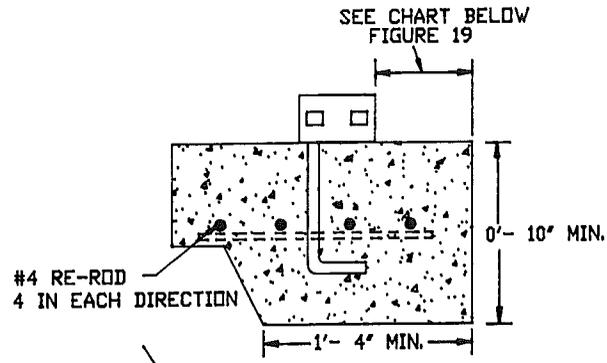

FIGURE 65
1. Should your home be placed on a full concrete slab as shown in Figure 19, the ground anchors may be replaced with anchor bolts imbedded in the concrete slab as shown. The location of the anchor bolt in relation to the longitudinal I-beams of the frame will be the same as for the ground anchors. (See Figure 65).